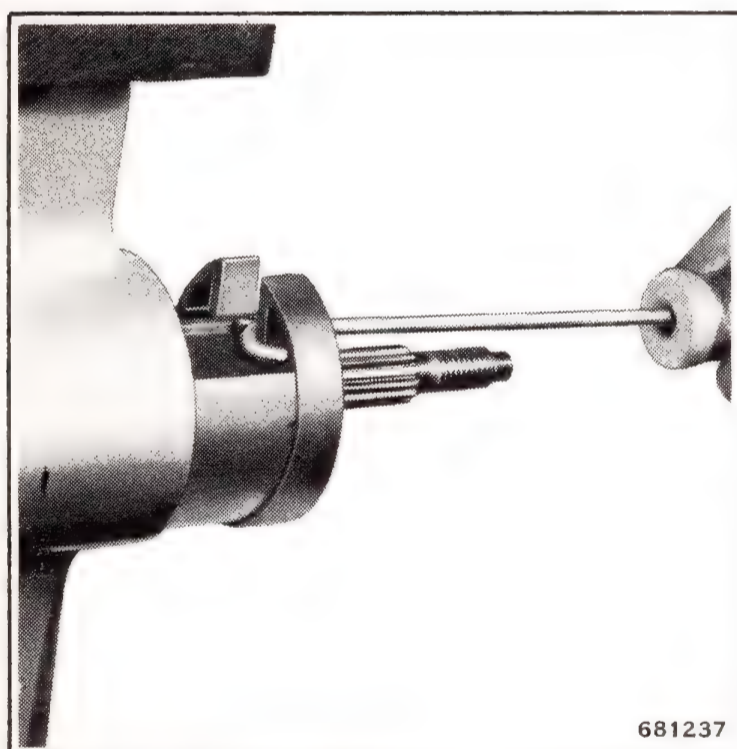

Figure 6-20. Removing Propeller Shaft Bearing Housing
e. Remove four bearing housing screws using a long 1/4" Allen wrench. Using a slide hammer with a hooked end, pull bearing housing from gearcase. See Figure 6-20.